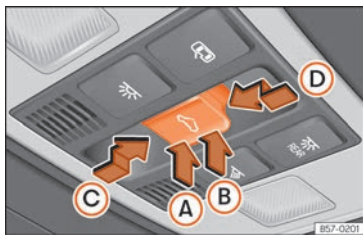

Fig. 66 On the interior roof lining: sunroof button.
The Fig. 66 button has two levels. The first level switches the sunroof to the tilted position, opening or closing it fully or partially.
- Within approximately 5 seconds of having activated the roll-back function, press the <> >>> Fig. 66 button to the second level in the direction of arrow Ⓐ until the sunroof closes completely.